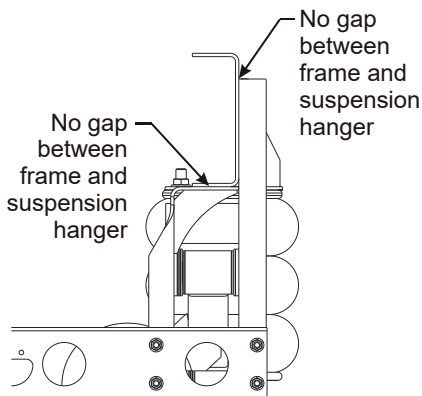

Figure 10
3. During installation, keep the auxiliary axle in alignment with all other properly aligned vehicle axles, using a trammel bar and tape measure. (see Figure 10)